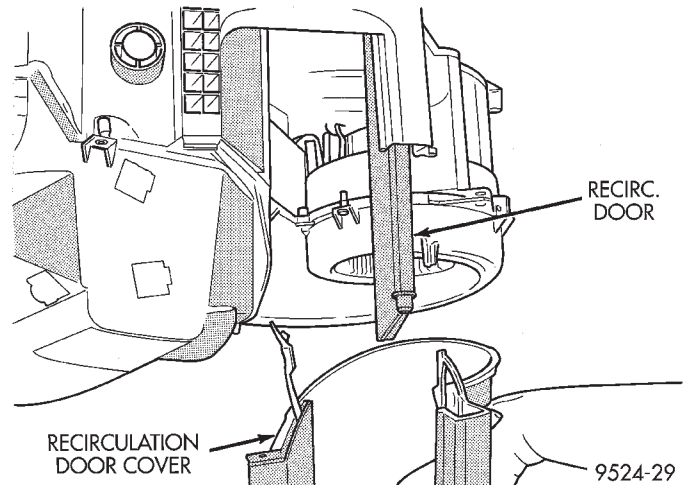

Fig. 51 Recirculation Door Cover
(6) Remove recirculation door cover (Fig. 51).